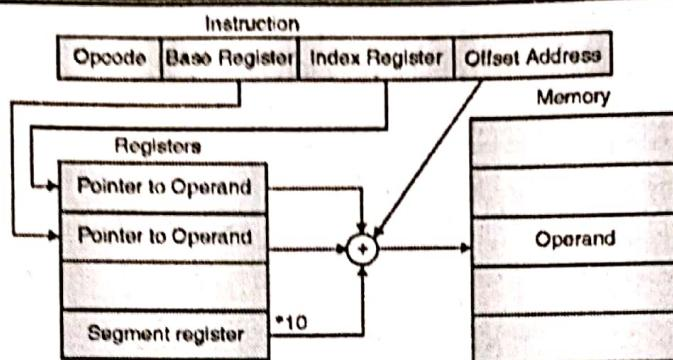

Fig. 9- Q. 5(a) : Relative Based Indexed Addressing Mode
- In this addressing mode the effective address is given by a base register and an index register along with an 8-bit displacement, specified in the instruction. This effective address is added with the segment register * 10H to generate the physical address as shown in Fig. 9-Q. 5(a).